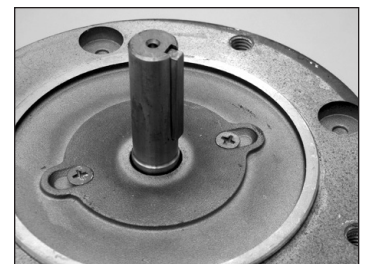

Figure 3
4. Coat the motor shaft with anti-seize compound. Insert the key supplied with the motor into the keyway on the motor shaft. See figure 3.